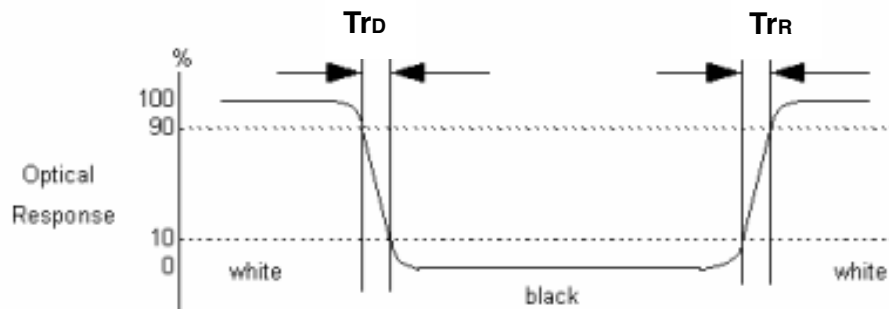

Fig.4-3 Response time
4. Response time is the time required for the display to transition from white(L_{255}) to black(L_0) (Decay Time, $Tr_D = T_f$) and from black(L_0) to white(L_{255}) (Rise Time, $Tr_R = Tr$). For additional information see Fig. 4-3.